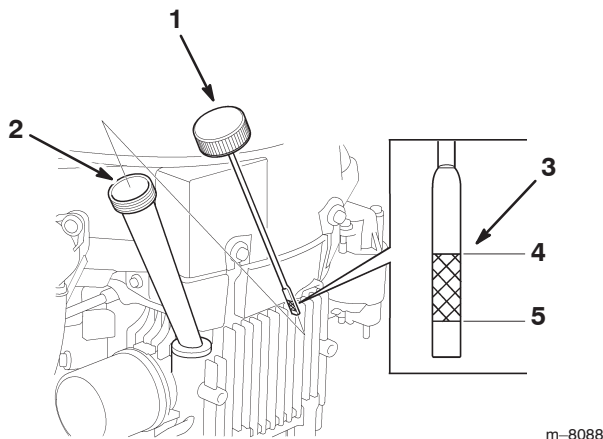

Figure 16
2. Clean around the oil dipstick (Fig. 16) so that dirt cannot fall into the fill hole and damage the engine.
3. Unscrew the oil dipstick and wipe the metal end clean (Fig. 16).
5. Pull the dipstick out, and look at the metal end. If the oil level is near or below the lower limit mark, slowly pour only enough oil into the fill hole to raise the level to the upper limit mark on the dipstick. **Do not overfill.** (Fig. 16).
10. Clean around the oil dipstick and unscrew the cap (Fig. 16).